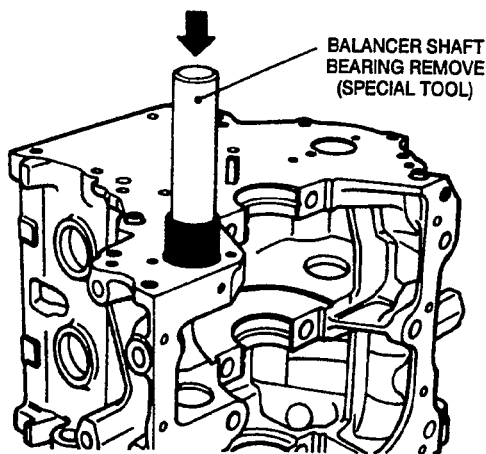

FIGURE 9-35. REMOVING BALANCER SHAFT FRONT BEARING
3. To remove the balancer shaft front bearing, insert the special tool "Balancer Shaft Bearing Remover" and drive out the bearing (Figure 9-35).